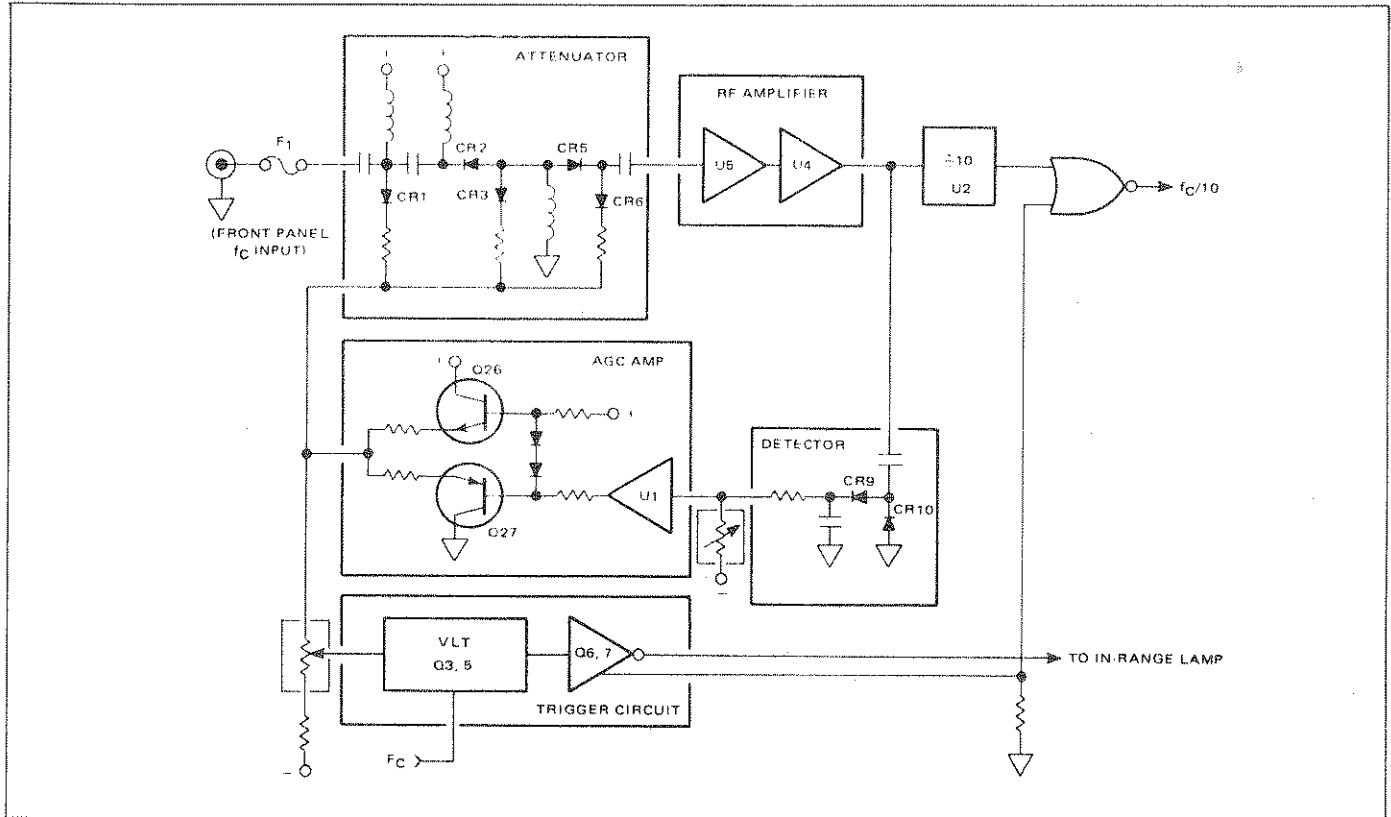

Figure 4.13 - Prescaling Amplifier, F_C (Model 9035 Only)
4.4.3.1 This circuitry (figure 4.13) automatically adjusts the amplitude of the channel C input signal to provide a suitable level for the remaining circuitry, divides the input signal frequency by ten, and generates a high, FC logic signal when an input of the correct frequency range and of sufficient amplitude is applied to the channel C input connector. The circuitry, shown in figure 4.13, consists of an attenuator, RF amplifier, divider, detector, AGC amplifier, trigger circuit, and output signal gate.